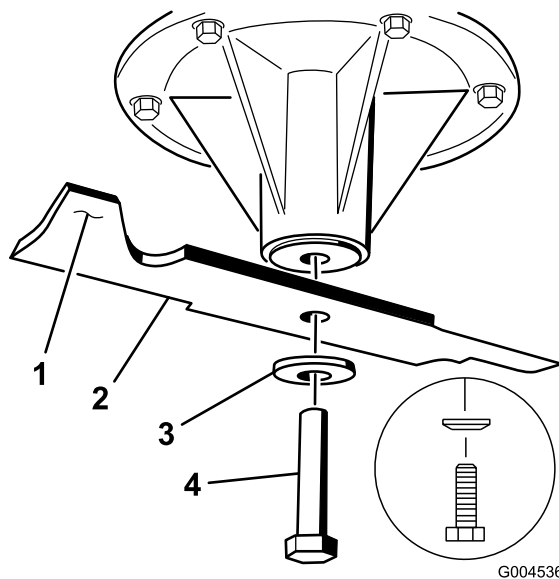
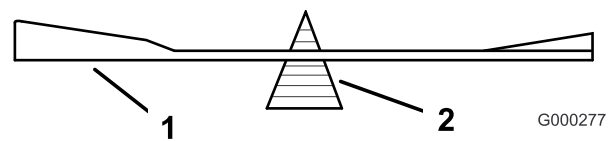

Figure 65
Figure 68
2. For 40 and 48 inch mower decks, remove the blade bolt, curved washer, and blade from the spindle shaft (Figure 65).
1. Install the blade onto the spindle shaft (Figure 65).
Important: The sail part of the blade must be pointing upward, toward the inside of the mower to ensure proper cutting (Figure 65).
2. For 40 inch and 48 inch mower decks, install the blade, curved washer, and blade bolt (Figure 65).
2. Check the balance of the blade by putting it on a blade balancer (Figure 68). If the blade stays in a horizontal position, the blade is balanced and can be used. If the blade is not balanced, file some metal off the end of the sail area only (Figure 65). Repeat this procedure until the blade is balanced.